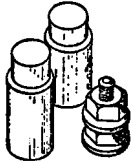

FIGURE 1. Binding Post Cap
- 2.01 The binding post cap is a red neoprene cap with a tear slit and hole. The cap, which can be used on a working or non-working binding post, completely covers the cable terminal binding posts. The caps provide protection against accidental contact. See Figure 1.